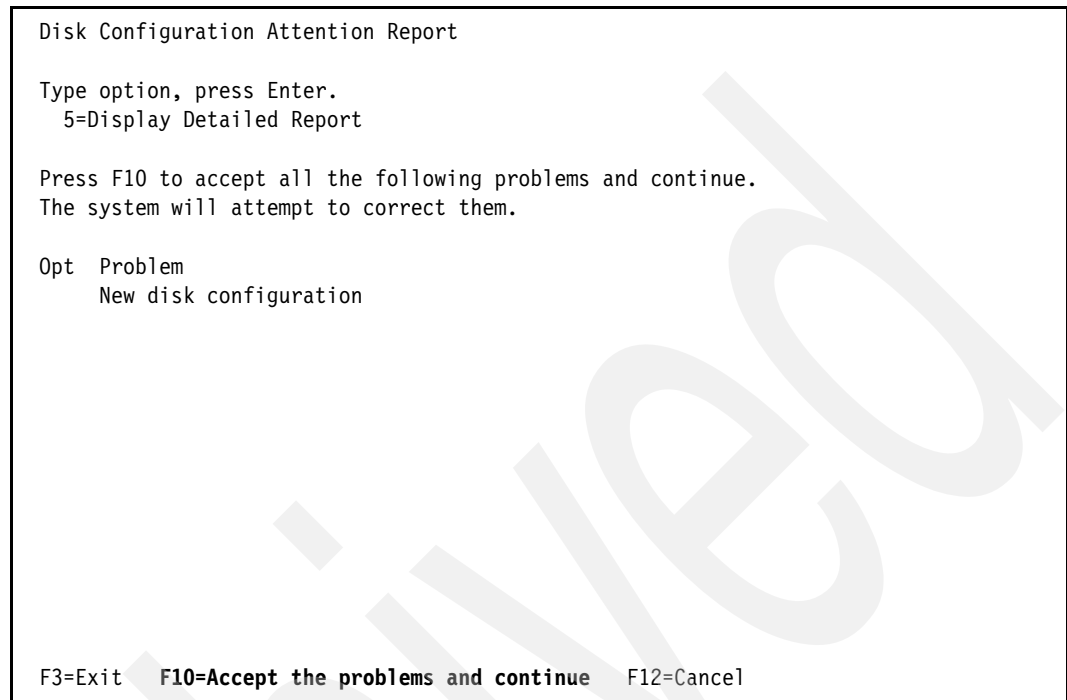

Figure 6-74 IBM i Disk Configuration Attention Report panel
13. The Disk Configuration Attention Report informs about a new disk configuration because unconfigured disk units were found in the configuration. We accept by pressing F10=Accept the problems and continue, as shown in Figure 6-74.